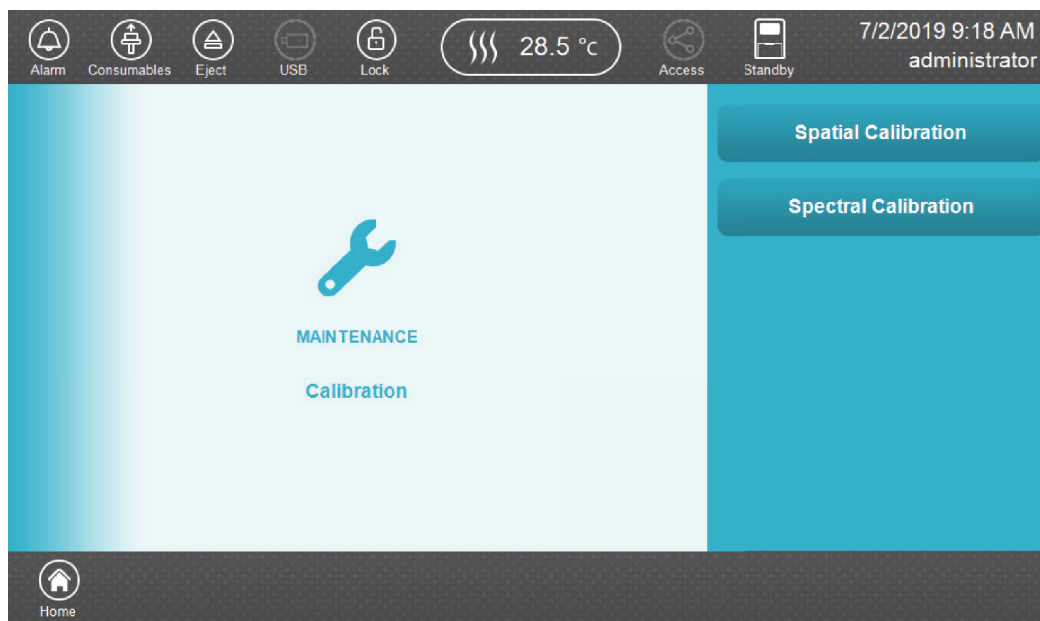

Figure 33. 'Maintenance Calibration' screen.
3. Select **Calibration** on the maintenance portion of the 'Main Menu' screen (Figure 31) then select **Spectral Calibration** on the 'Maintenance Calibration' screen (Figure 33).